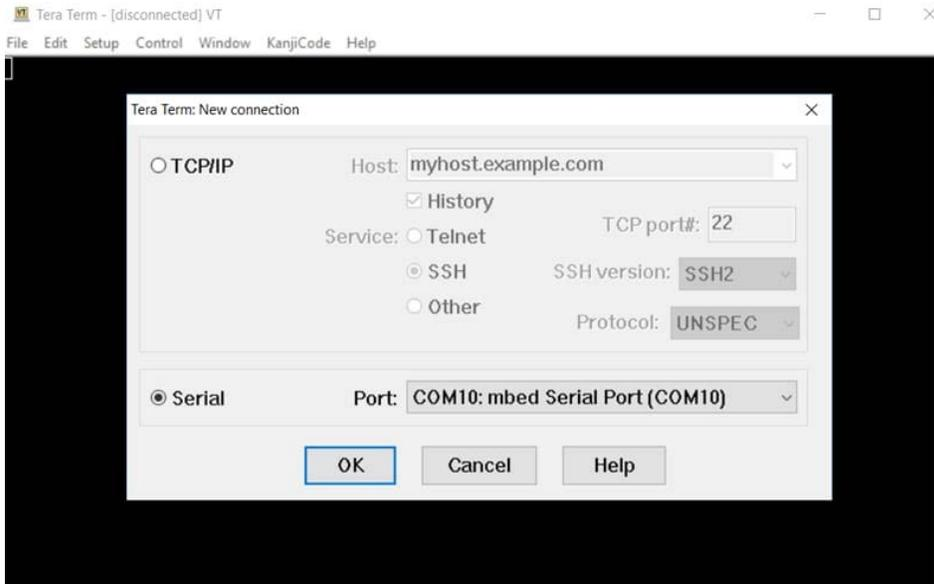

Figure 8. Tera Term opening window. Select the Serial radio button and the mbed Serial Port from the drop-down menu.
- Open Tera Term and select the **Serial** radio button and the Mbed device from the pull-down menu, as shown in **Figure 8**. The Mbed device could be on a different COM port than what is shown in Figure 8. Click **OK**.